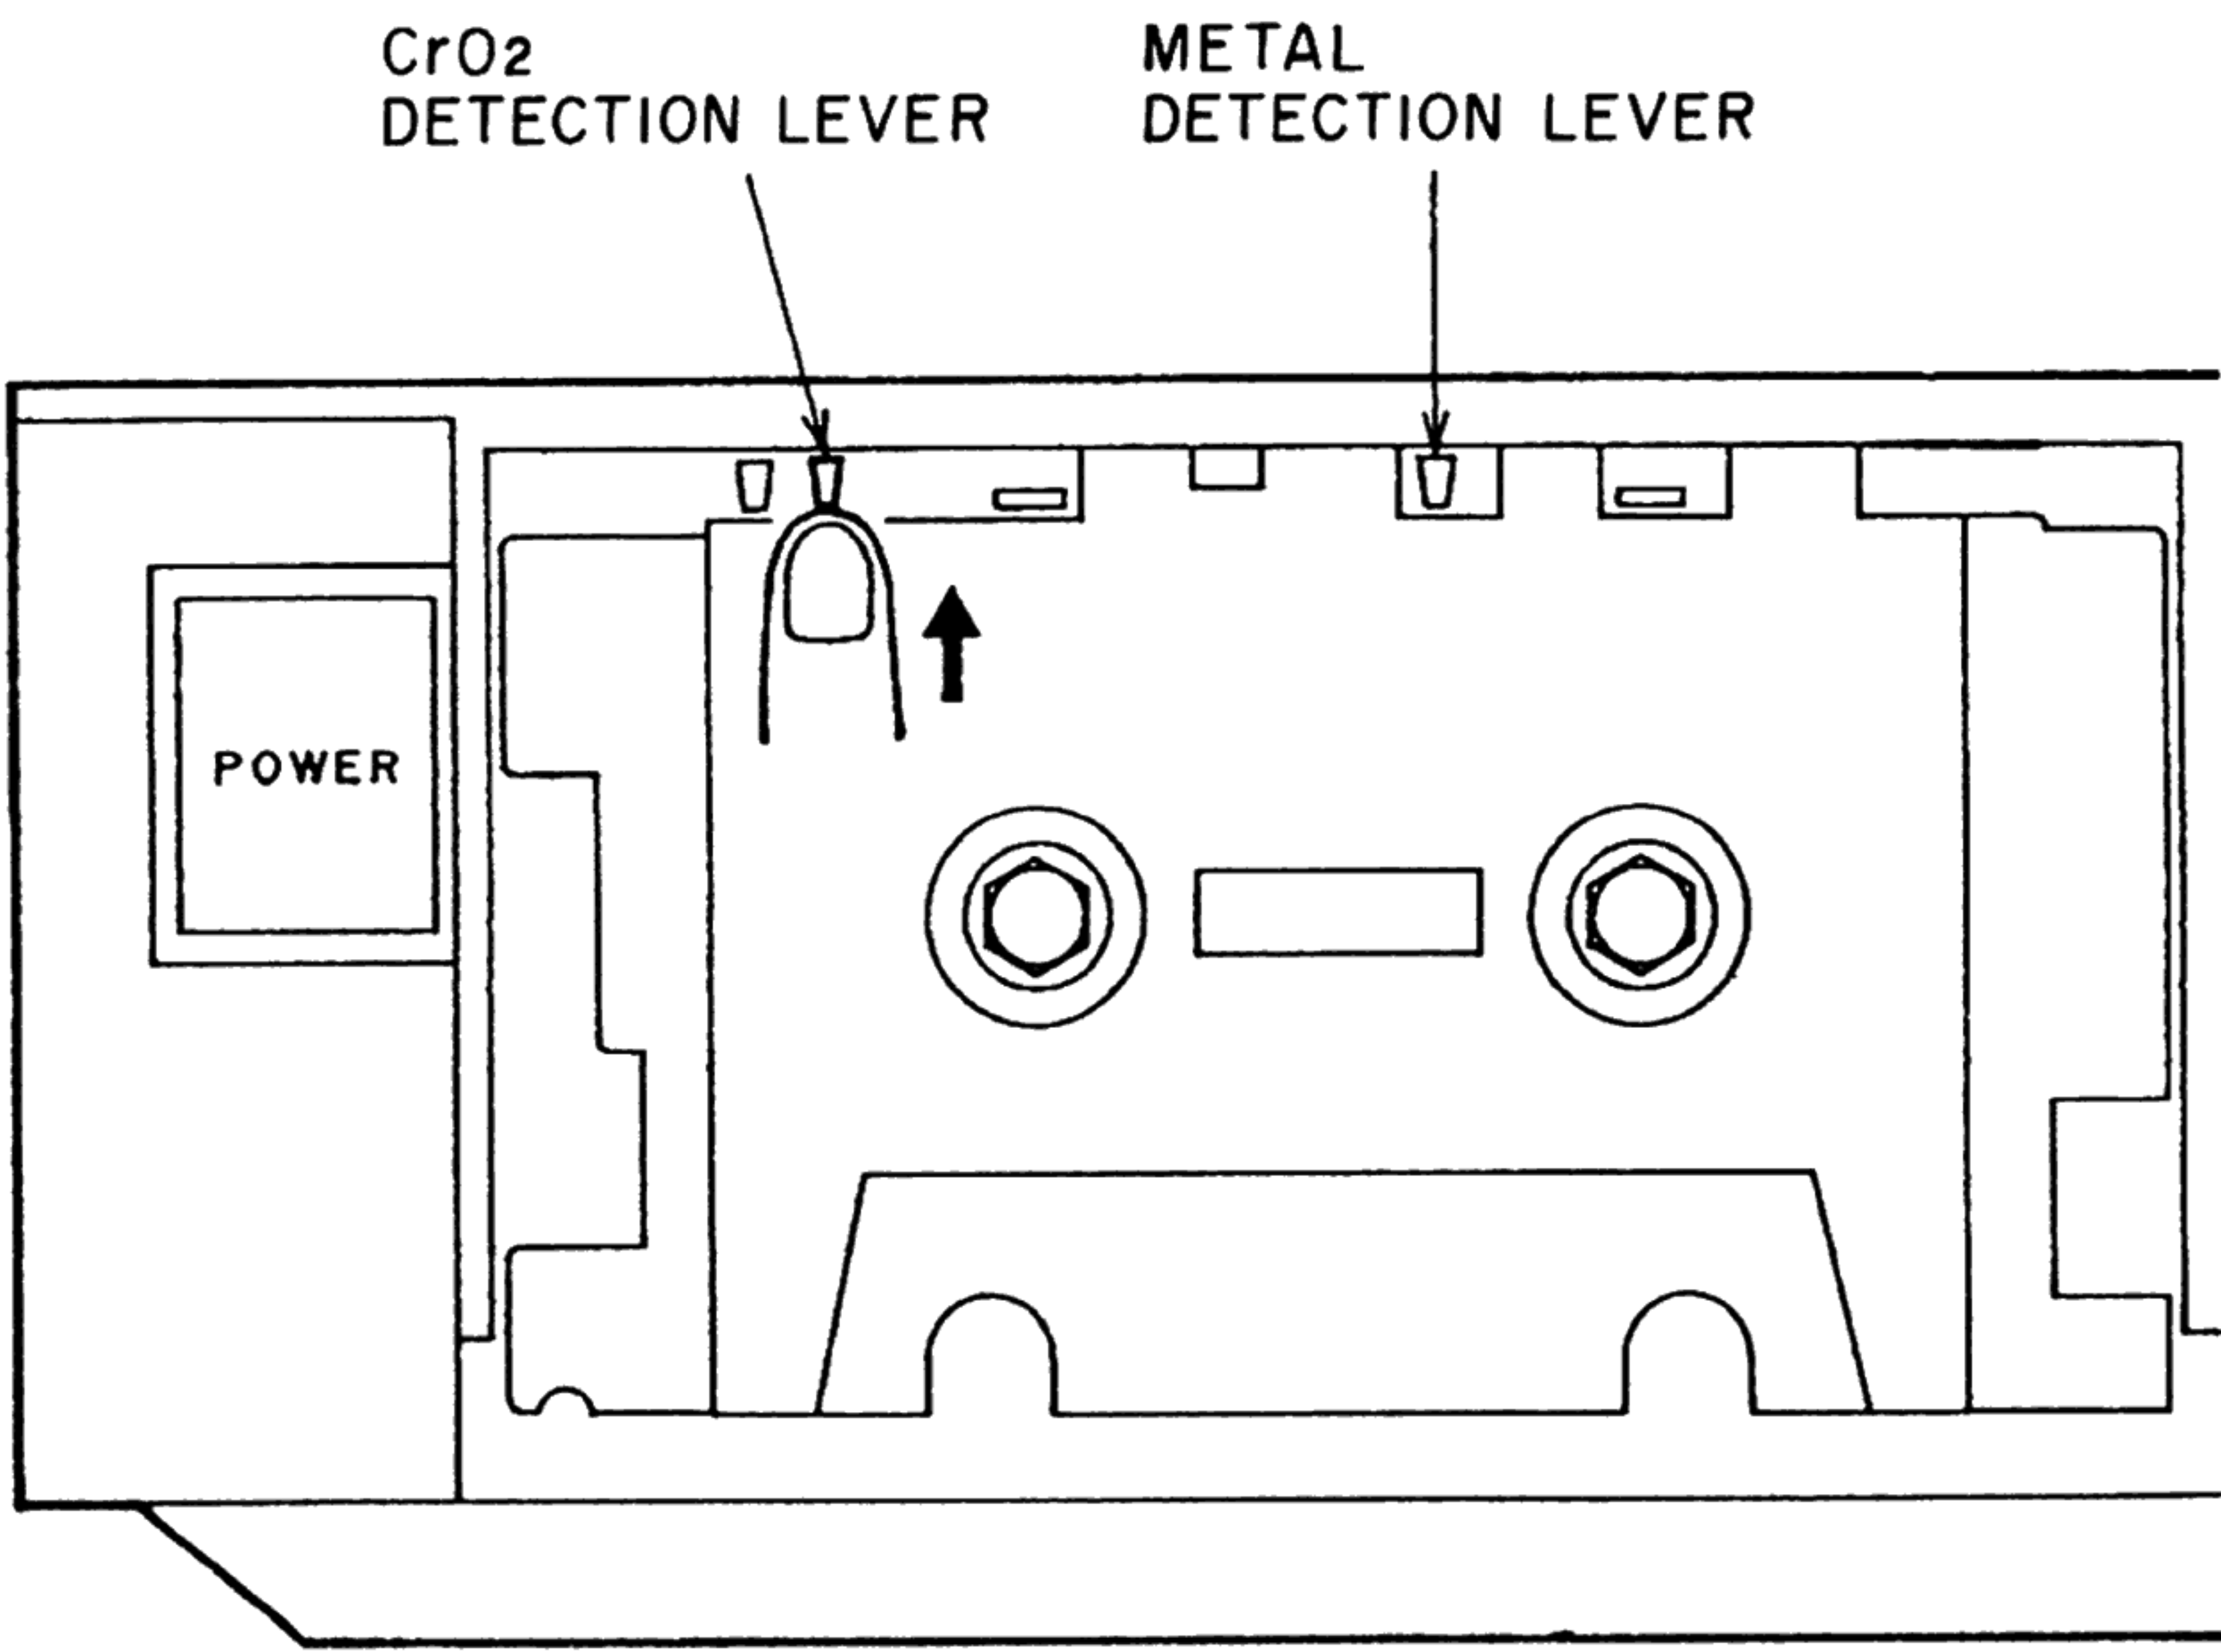
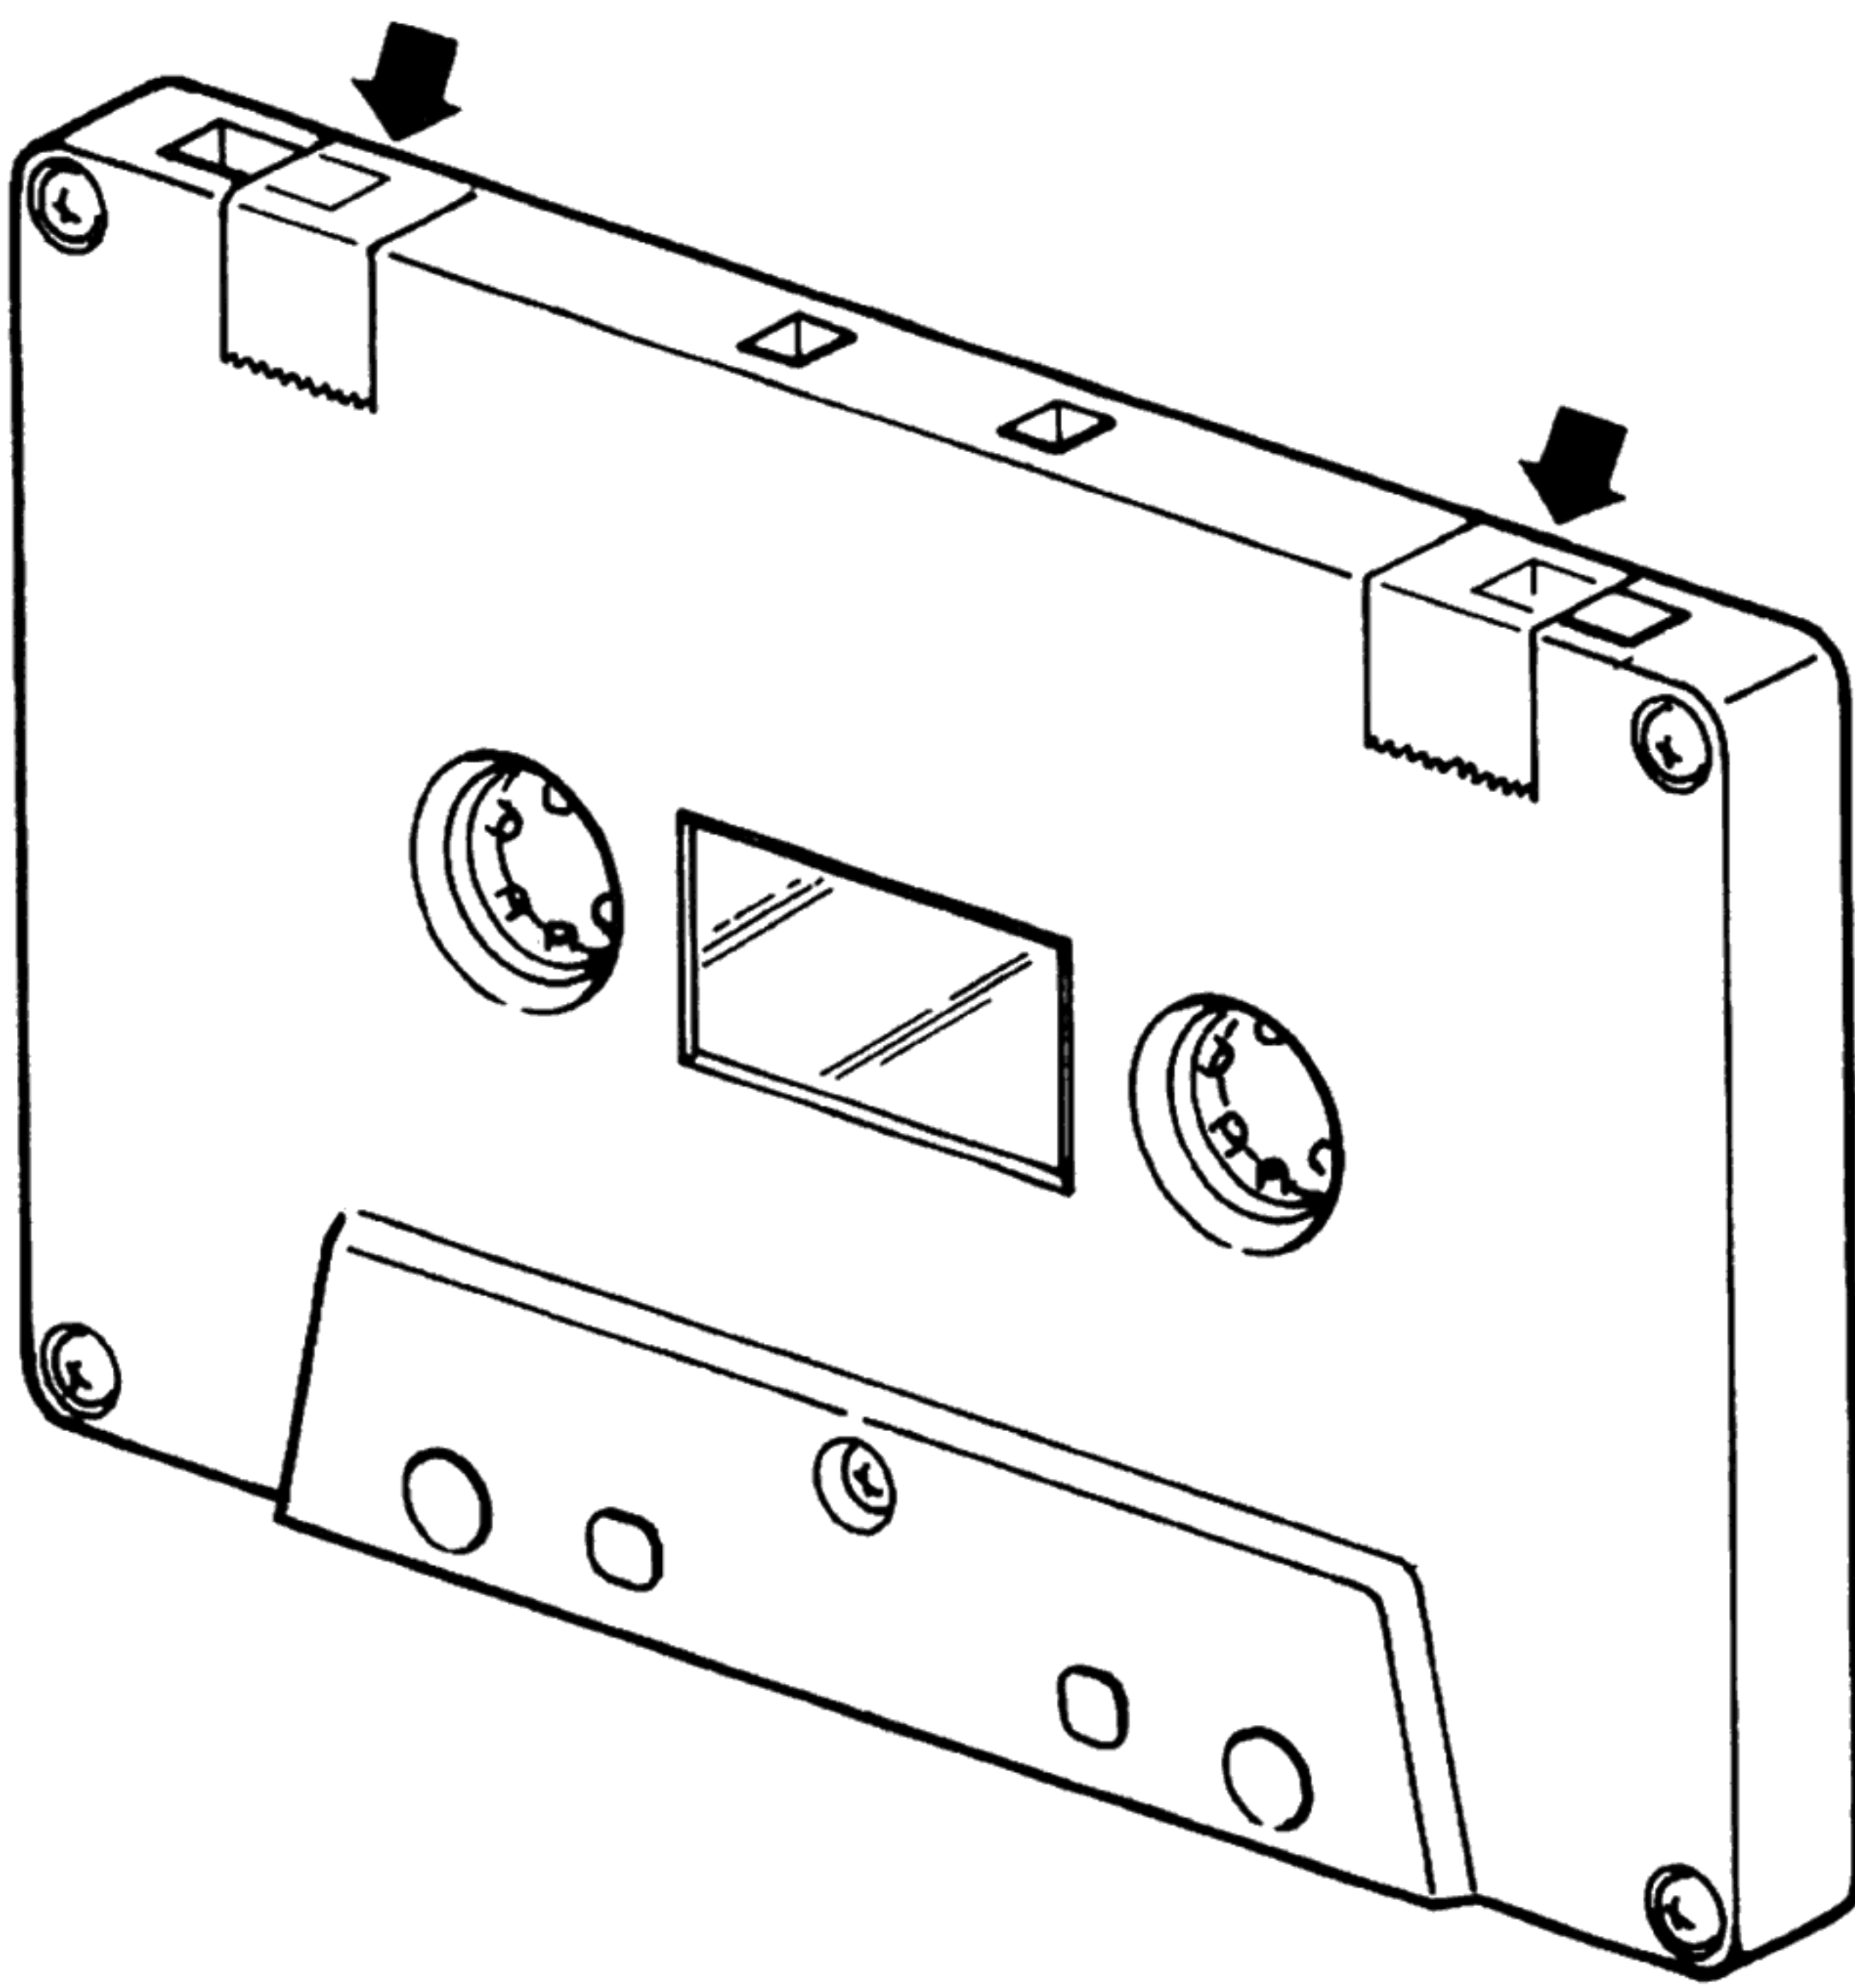

Fig. 7-1
Fig. 7-2
Push up the CrO₂ detection lever (see Fig. 7-1) with a finger or the tape shown in Fig. 7-2, and turn on the power switch is on (While the tape counter is flashing). The Model GX-9 will be set in the REF mode.
- Refer to Fig. 7-2 for the adjustment points.